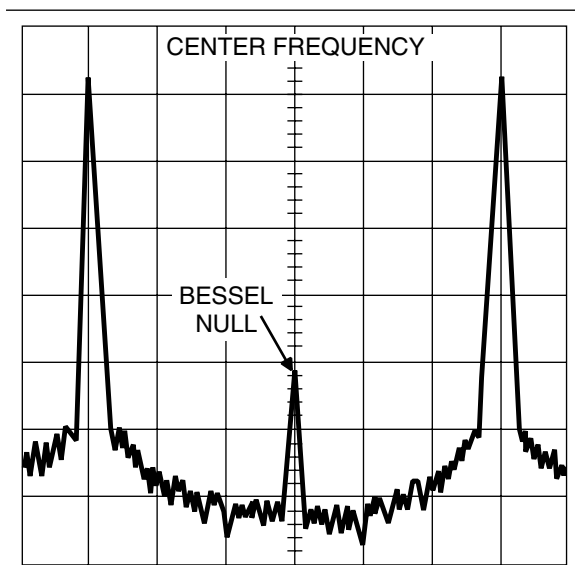

Figure 4-11. Typical Spectrum Analyzer Display of Bessel Null on FM Waveform
- e. While observing the first Bessel null (Figure 4-11) on the Spectrum Analyzer display, adjust the value of the DAC's setting to reduce the carrier level as low as possible.
- f. While observing the first Bessel null (Figure 4-11) on the Spectrum Analyzer display, adjust the value of the DAC's setting to reduce the carrier level as low as possible.